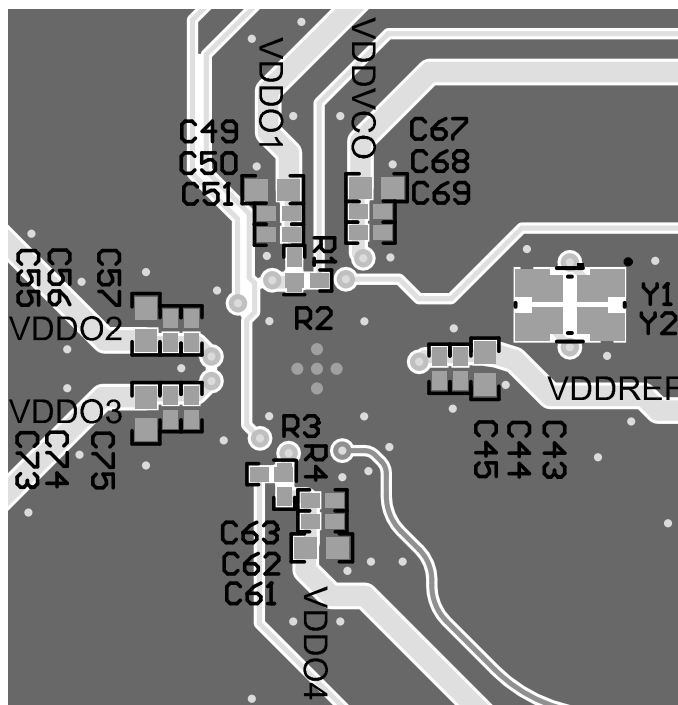

Figure 11-6. Layout Example, Bottom Layer
- Isolate the crystal area, connect the GND pads of the crystal package and flood the adjacent area. Figure 11-6 shows a foot print which supports multiple crystal sizes.
- Place decoupling capacitors with small capacitance values very close to the supply pins. Try to place them very close on the same layer or directly on the backside layer. Larger values can be placed more far away. Figure 11-6 shows three decoupling capacitors close to the device. Ferrite beads are recommended to isolate the different frequency domains and the VDD_VCO domain.